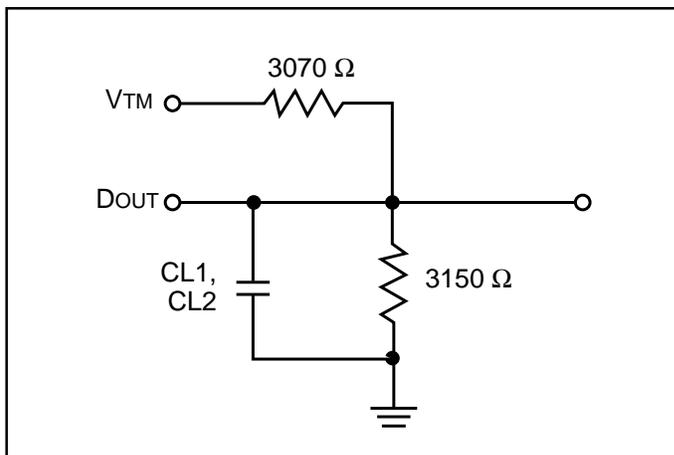

Figure 1
1. Test conditions assume signal transition times of 5 ns or less, timing reference levels of 1.5V, input pulse levels of 0.4 to 2.2V and output loading specified in Figure 1.
1. Test conditions assume signal transition times of 3 ns or less, timing reference levels of 1.5V, input pulse levels of 0.4V to 2.2V and output loading specified in Figure 1.
3. Tested with the load in Figure 1. Transition is measured  $\pm 200$  mV from steady-state voltage. Not 100% tested.